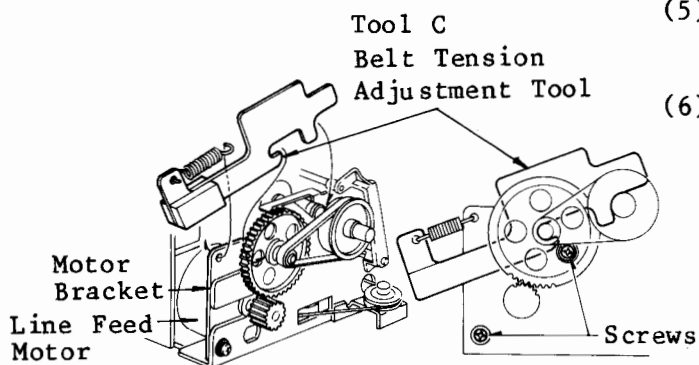

Figure 118
- (4) Mount the belt tension adjusting tool (Tool C) as shown in Figure 118.
- (5) Loosen the screws holding the motor bracket; then, tighten them again.
- (6) Install the PCB bracket.